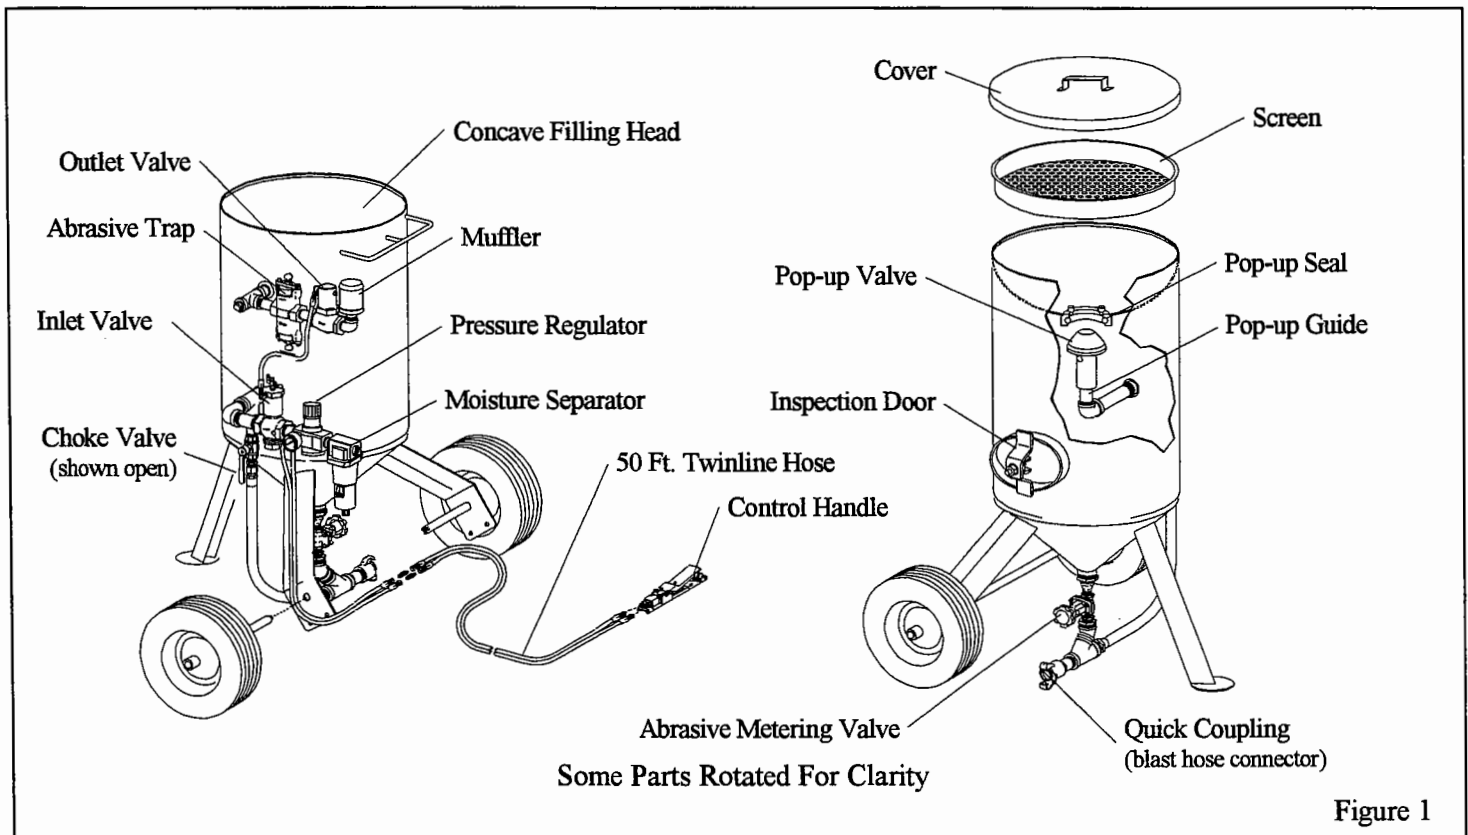
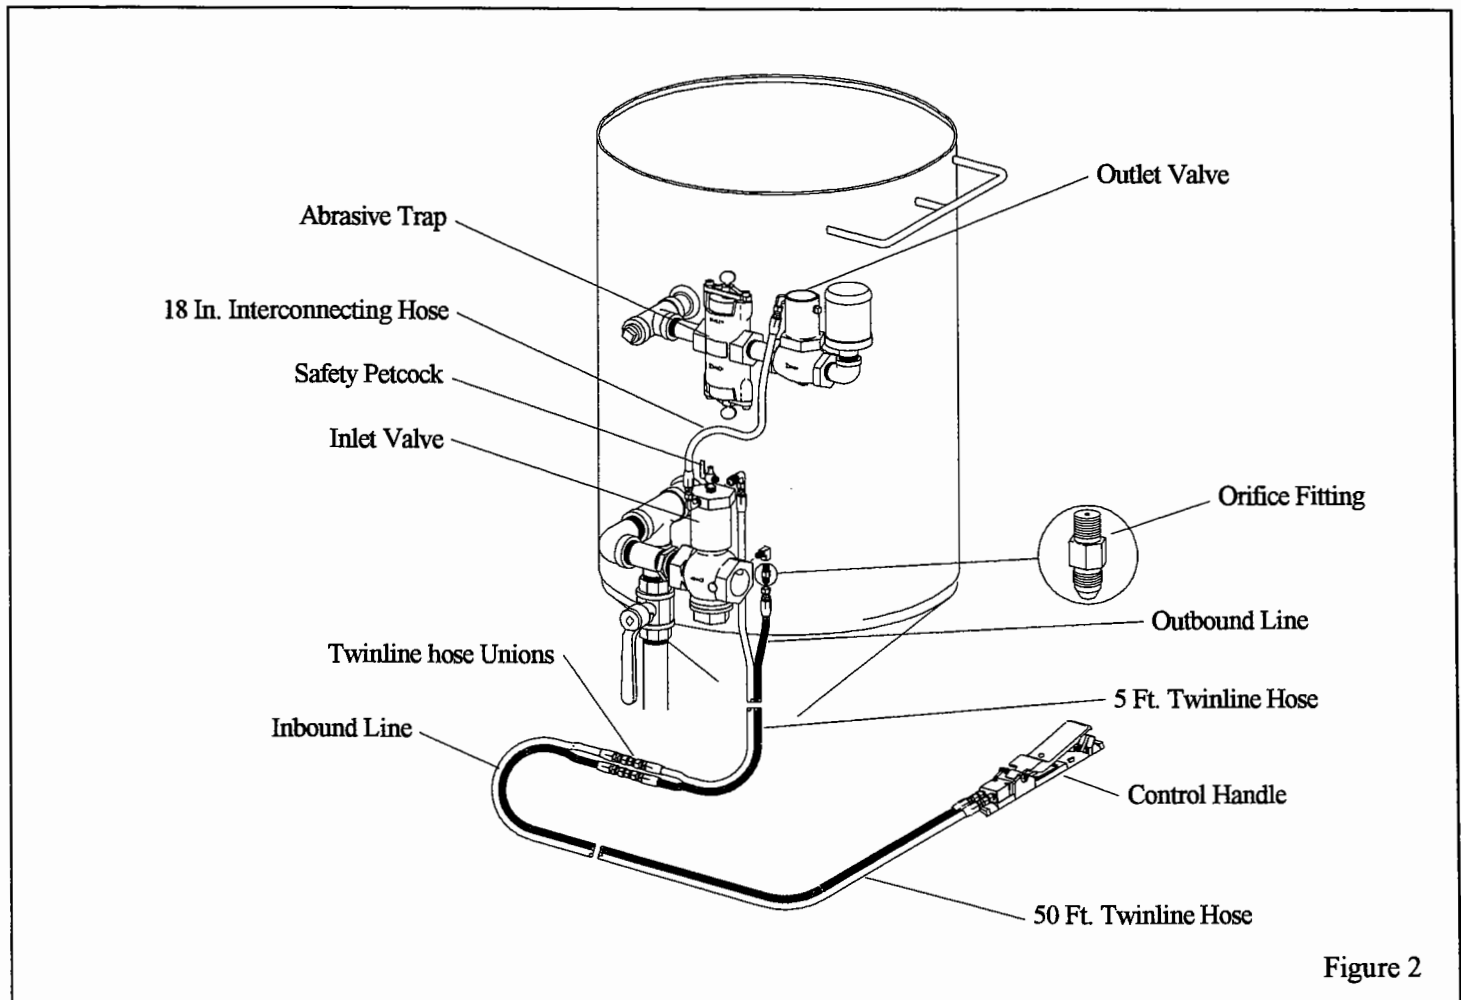

Figure 1
Figure 2
1.3.1.1 The primary components of the blast machine and the remote control system are shown in Figure 1. Additional components of the remote controls are shown in Figure 2.
1.3.3.3 The components of the remote control system are shown in Figures 1 and 2. They include the inlet valve, outlet valve, RLX Control Handle, 50-foot and 5-foot long twinline control hoses, 2 control hose unions, and an 18-inch long interconnecting hose.
1.3.3.5 Clemco remote controls operate pneumatically on return air (See Figure 2). If the control handle lever (the main activator of the system) is in the up (no blast) position, one stream of air travels down the outbound line, shown as the dark line in Figure 2, and escapes through an opening located under the lever. The normally-closed inlet valve remains closed, and the normally-open outlet valve remains open. When the control handle lever is pressed, the opening under the lever is sealed, and air in the outbound line returns through the inbound line to open the inlet valve and close the outlet valve. This action pressurizes the blast machine and begins the blasting process. Releasing the handle exhausts control air, which closes the inlet valve, and opens the outlet valve to depressurize the blast machine and stop blasting.
Clemco supplies an exhaust muffler with all blast machines of 2 cu. ft. capacity and larger. The muffler reduces exhaust noise and prevents abrasive from exhausting upward or sideways into the air. When the blast machine is depressurized, the muffler body pops up to diffuse the air and abrasive. When the machine is fully depressurized, the muffler body drops, permitting trapped abrasive to empty. For the muffler to work properly, it must be installed with the body facing up, as shown in Figure 1.
2.1.1 Attach the 5-foot twinline hose to the inlet valve as shown in Figure 2, one side connects to the unused upper elbow, the other to the orifice fitting. Either side can connect to either fitting.